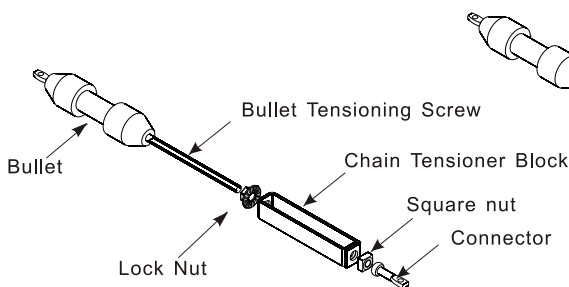

Fig 4A
- Place the Square Nut (Fig.4A) INTO the Tensioner Block and affix the Tensioner Block to the Tensioner Screw